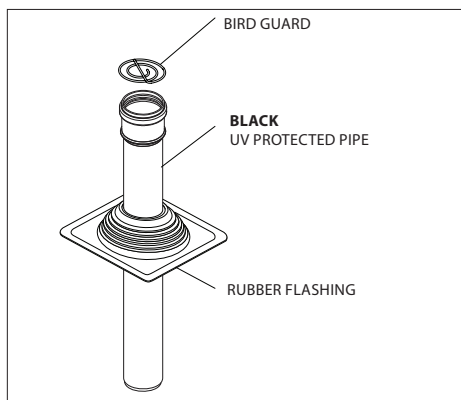

Figure 19- Vertical Pipe Termination
Vertical single pipe (Fig.19)
2. Attach flashing to roof. (**Fig.19**)